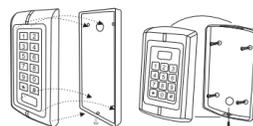

Figure 4
- attach the front cover (See Figure 4)